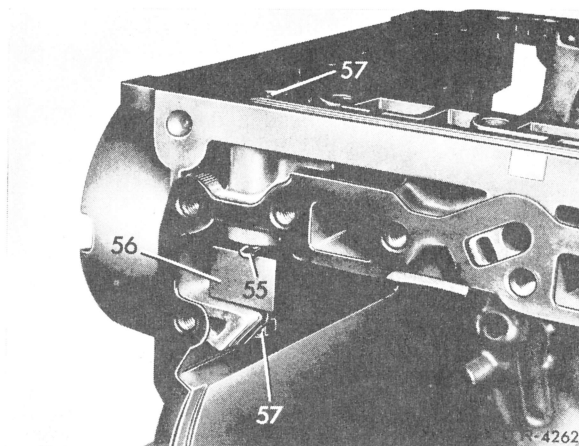

Fig. 25
**40** Pull clamp (55) for bearing bolt out of brake band lever B 3 and knock out bearing bolt (57) in downward direction (Fig. 25).
**41** Remove brake band piston B 3 (56) from transmission case.
**44** Insert brake band lever B 3 (56) into transmission case. Introduce bearing bolt (57) from above and secure with clamp (55) (Fig. 25).